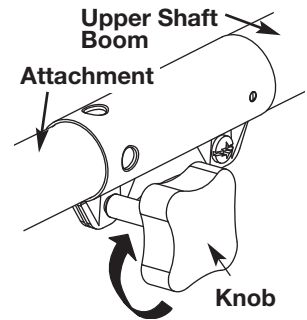

Fig. 18
4. Turn the knob clockwise to lock the coupler (Fig. 18).
4. While firmly holding the upper shaft boom (Fig. 18), pull the attachment out of the coupler.